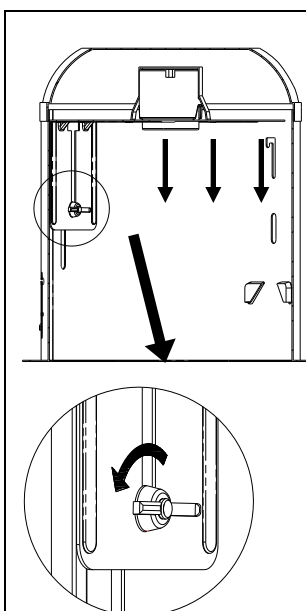

FIG. 2
1. Unscrew the WING NUT inside the CAN to detach the SOCKET BRACKET from the CAN. Disengage the SOCKET from the SOCKET BRACKET. (FIG. 2)